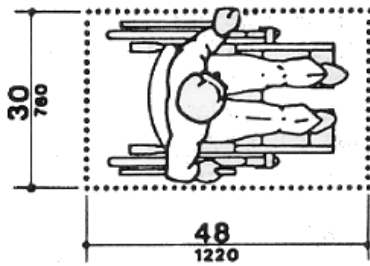
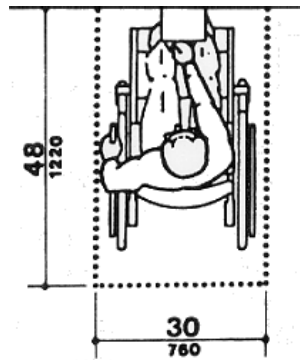

Figure 4a. Clear floor space.
Figure 4b. Forward approach.
4.2.4.1 **Size and Approach.** The minimum clear floor or ground space required to accommodate a single, stationary wheelchair and occupant is 30 inches by 48 inches (760 mm by 1220 mm) (see Fig.4a). The minimum clear floor or ground space for wheelchairs may be positioned for forward or parallel approach to an object (see Fig. 4b and 4c). Clear floor or ground space for wheelchairs may be part of the knee space required under some objects.